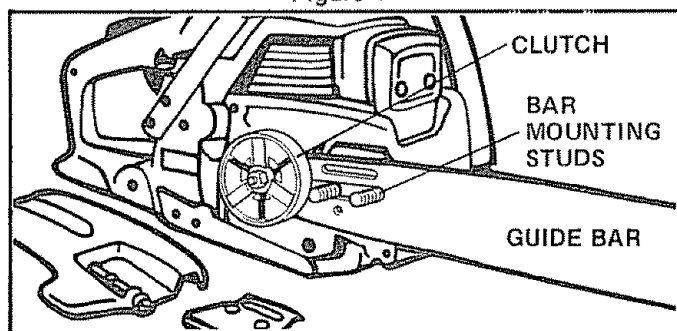

Figure 5
- Mount the Guide Bar with the slotted end over the bar mounting studs. Figure 5.